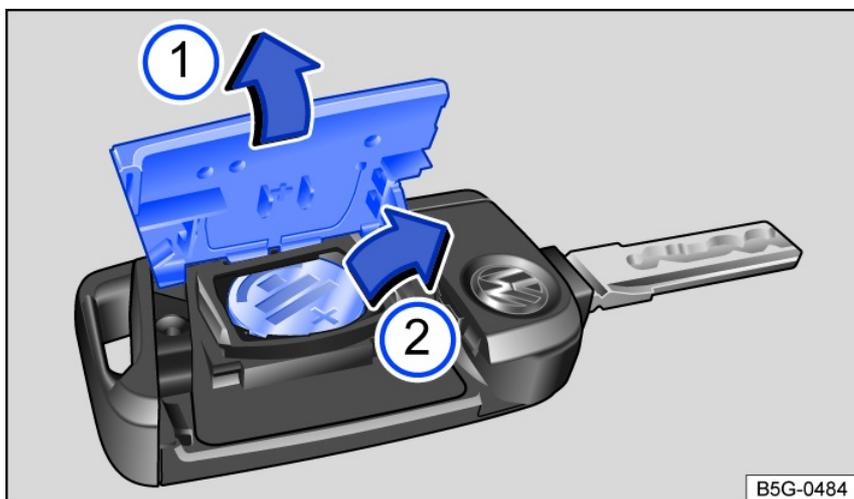

Fig. 51 Vehicle key: Replacing the button cell battery.
Key for *fig. 51*:
- Lever off the cover *fig. 51* ① → ⚠.
- Lift the button cell battery out of the battery compartment *fig. 51* ②.
- Press the cover onto the housing *fig. 51* ①.